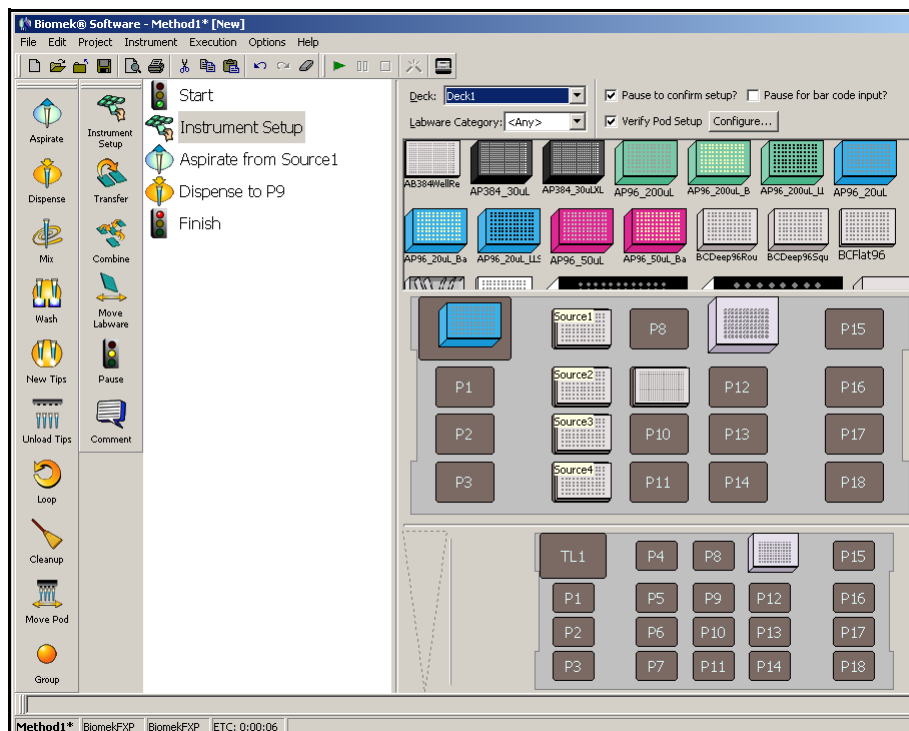

Figure 3-8. Modifying the Instrument Setup step to add more sources
- Rename the **Source1** labware at positions P5, P6, and P7 to **Source2**, **Source3**, and **Source4**, respectively. You should now have four 96-well source plates in positions P4-P7 named **Source1** to **Source4** (see Figure 3-8).